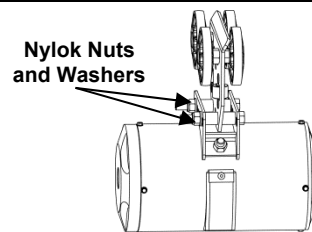

Figure 2-14
- Step 4. Install two (2) M16 x 2.0 Nylok nuts and M16 flat washers onto mounting bolts. (See Figure 2-14)